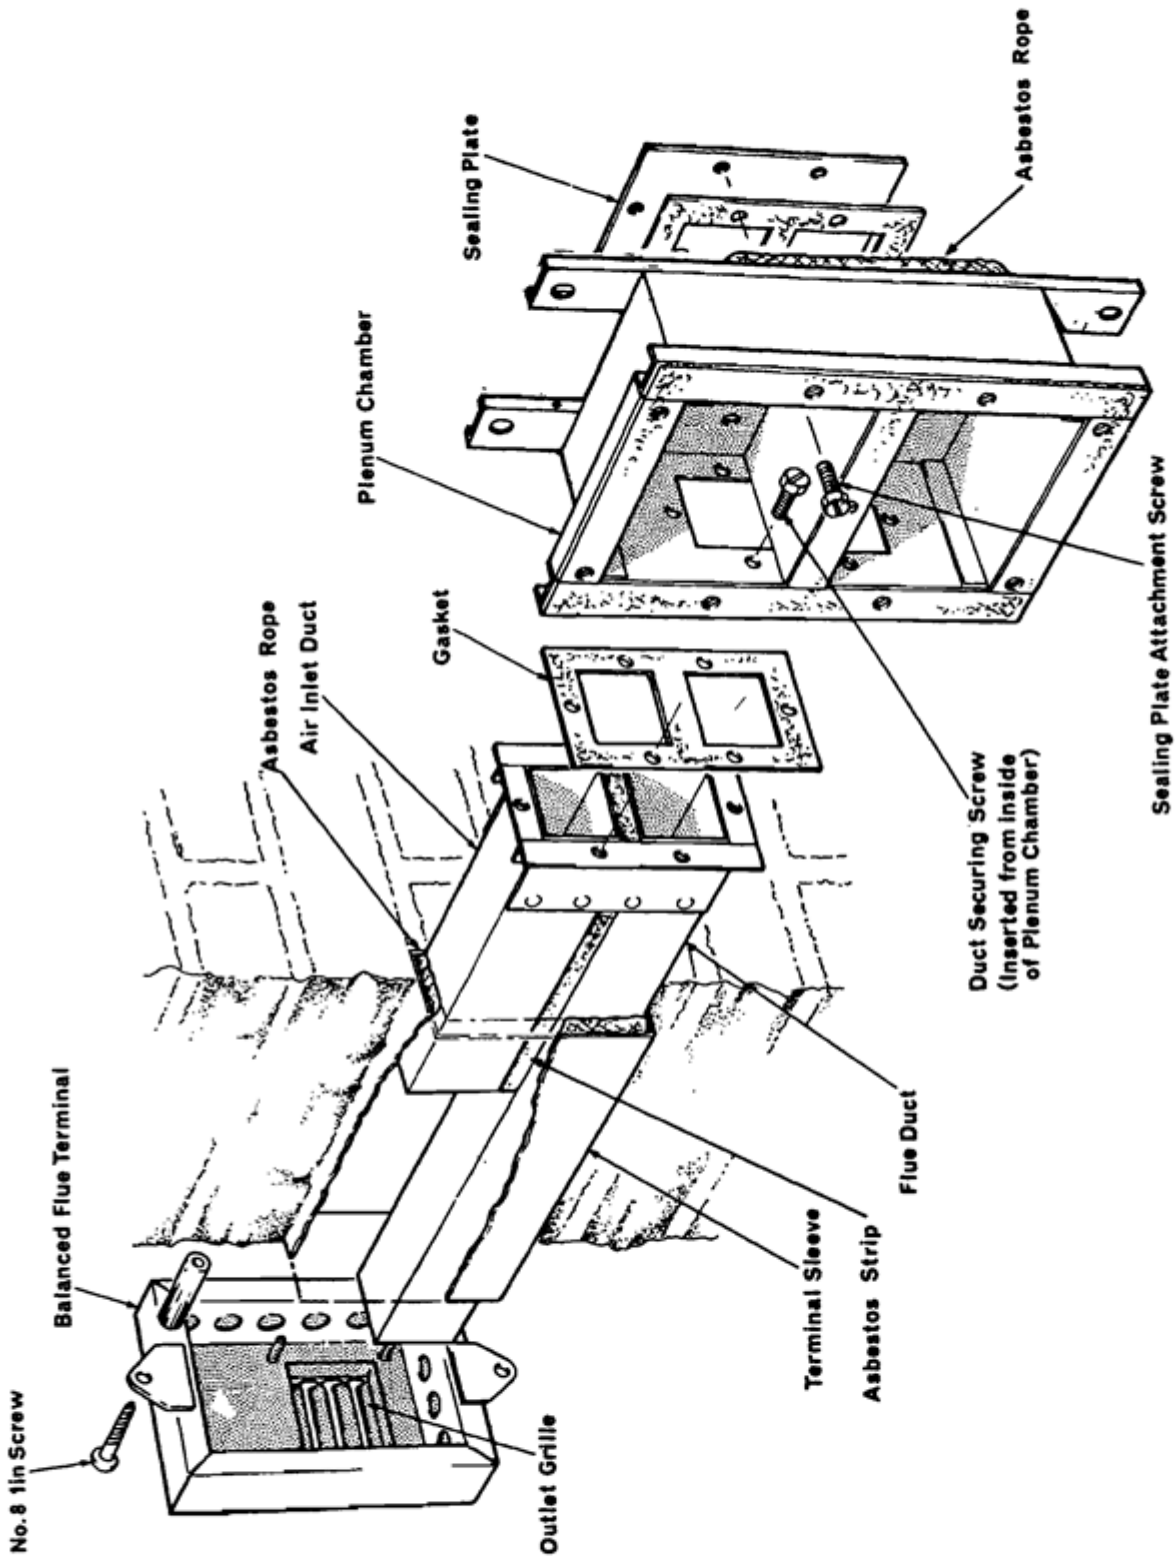

Fig. 5 ARRANGEMENT OF NETAHEAT 10/16 DUCTS
A. Potterton Netaheat 10 - 16 only — See Fig. 5.
(1) Fit and cut the wall liner to size, terminating it flush with the inside and outside wall faces of the building. Ensure the ends are square.
(2) The plenum chamber has two connections for the fresh air and flue ducts, one to one side and the other to the rear. One of these connections is blanked off with a sealing plate and gasket and depending on the direction the ducts are to be connected to the boiler, these should be re-positioned by the installer if necessary. The single side